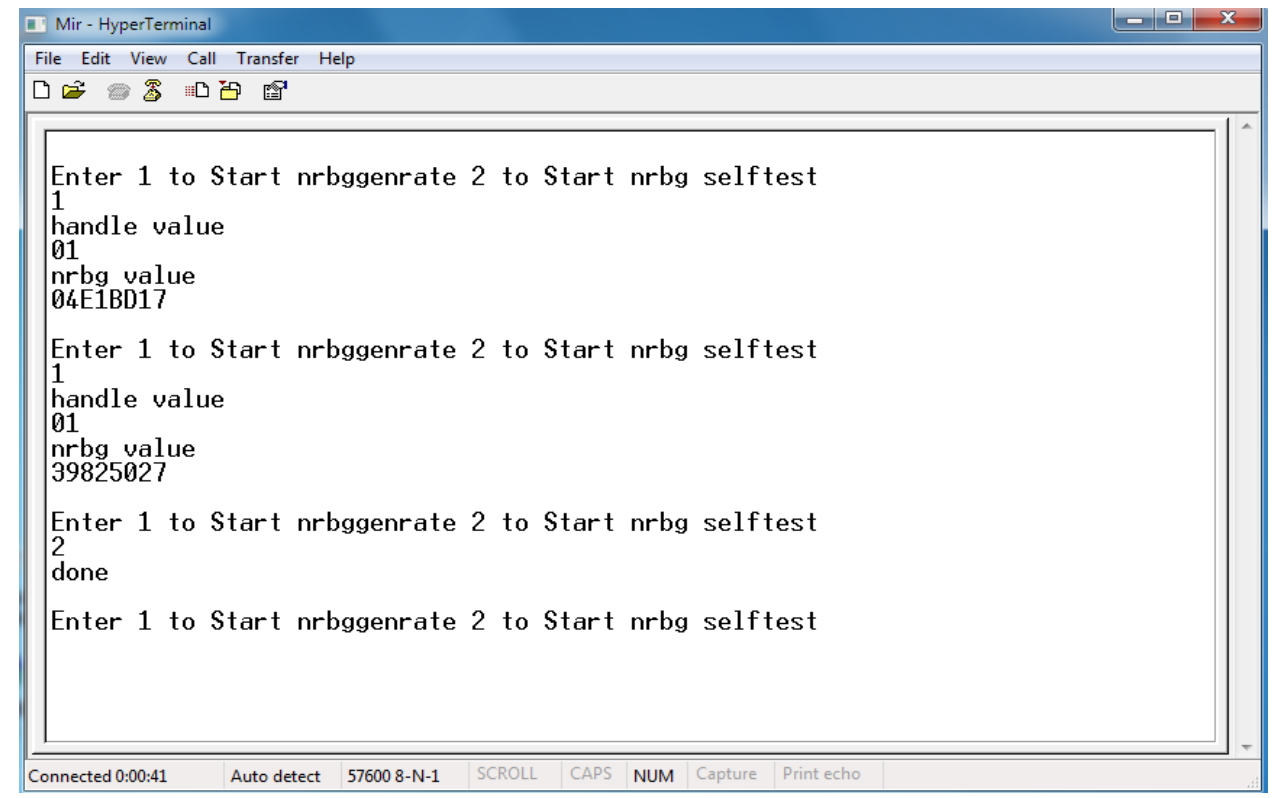

Figure 47 HyperTerminal GUI Shows the NRBG Generation
5. Enter 1 to start the DRBG generation. The DRBG value is displayed in the HyperTerminal. Enter 2 to run a self test on the NRBG block in the system controller, as shown in Figure 47.